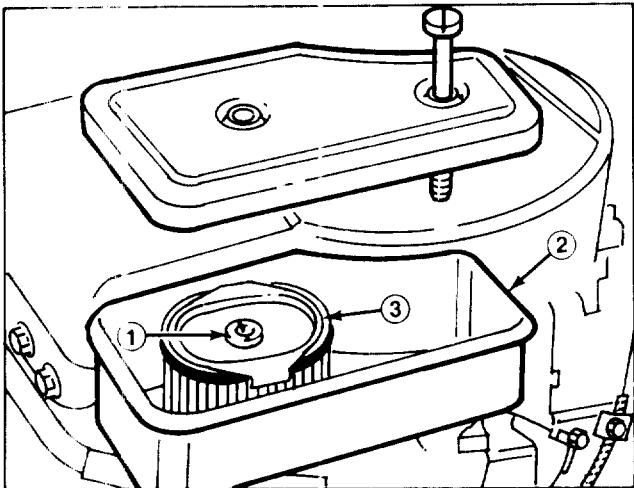

Figure 17
- Remove plate screw, washer and plate (Fig. 17).